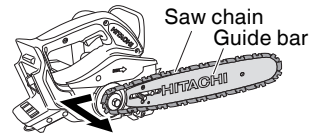

Fig. 4
2. Removing the saw chain and guide bar (Fig. 4)